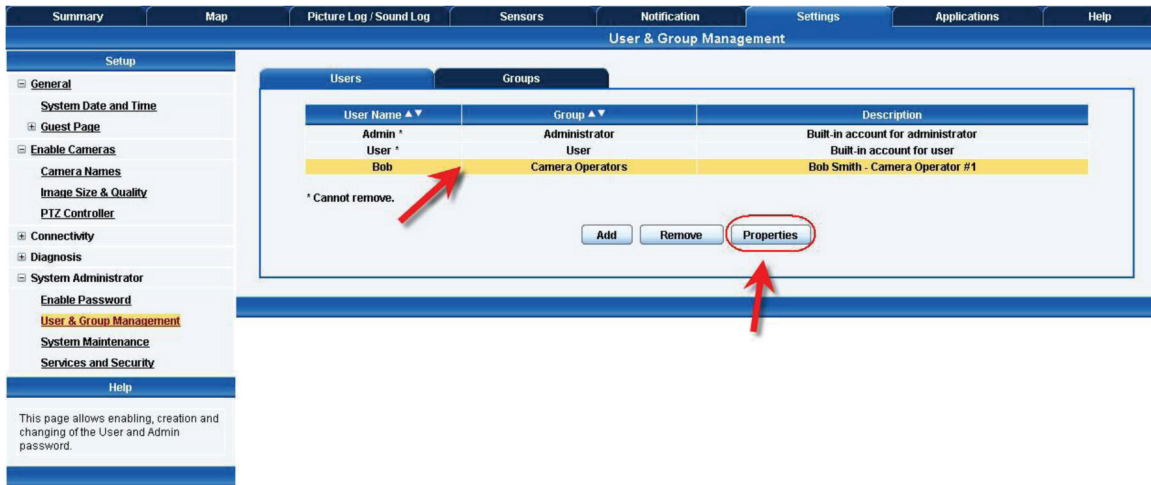

Figure 3-22. Properties button.
4. To modify a user's setting, click on the user to select it, then click the "Properties" button as shown in Figure 3-22.